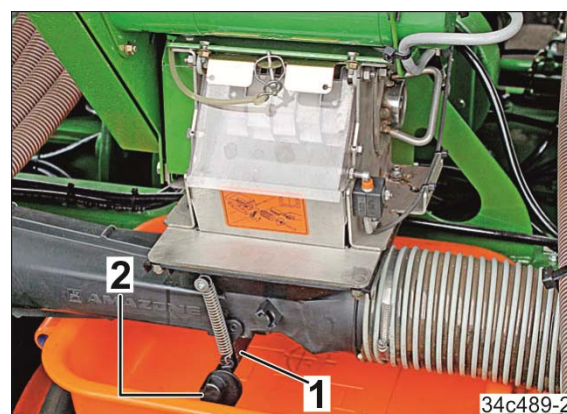

Fig. 116
6. Open the injector sluice flap (Fig. 116/1).
Only hold the injector sluice flap by the handle (Fig. 116/2), otherwise there is a risk of injury when the spring loaded flap snaps closed.